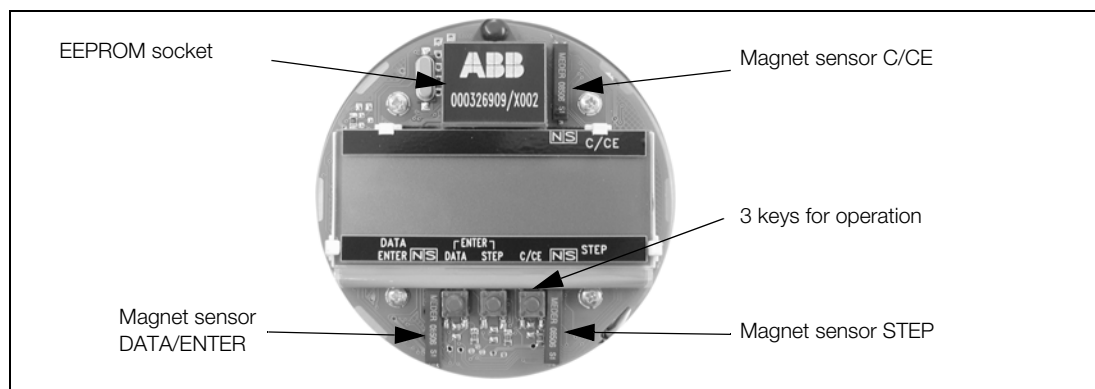

Fig. 64: Converter Keypad and Display
- the EEPROM is installed on the display board of the converter (see Fig. 64). The tag on the EEPROM lists an Order No. and a serial number whose end numbers are to be compared to those listed on the Type Plate on the converter for this EEPROM. **Both must be identical!**
The socket for the ext. EEPROM is located at the front of the display board or on the EEPROM-connection board for the versions without a display (see Fig. 64).